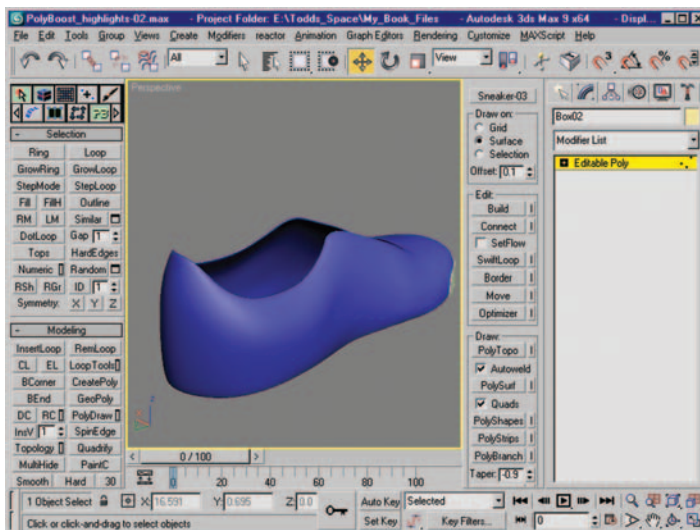

Figure 12.28 Perspective viewport with shoe rotated.
1. Rotate the sneaker mesh so that the rear and side are visible as seen in Figure 12.28.